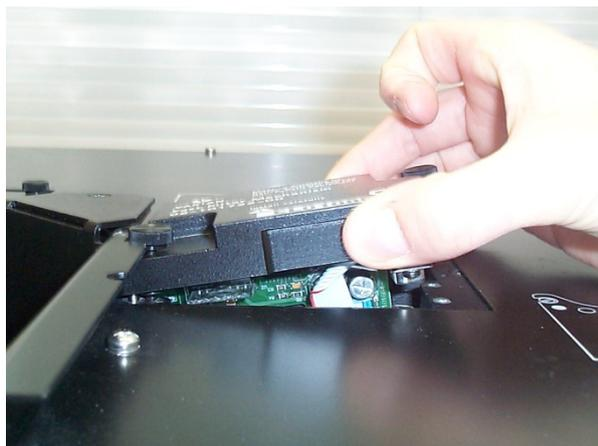

Figure 7. The edge nearest the male D-plug is raised at a 30° angle with the opposite edge touching the excitation chamber
- d** Carefully lower the accessory into the excitation chamber, raising the edge nearest the male D-plug on a 30° angle so that the opposite edge of the accessory touches the excitation chamber first (see Figure 7). Once the edge is positioned, lower the male D-plug so that it is sitting on top of the female D-plug in the excitation chamber.
On the **Accessories** page of the **Setup** dialog box, select the **Fast Filter** option to display Fast Filter page (Figure 7). In this example the software will automatically calculate the result of Filter 3/Filter 1 and the result of Filter 4/Filter 2.